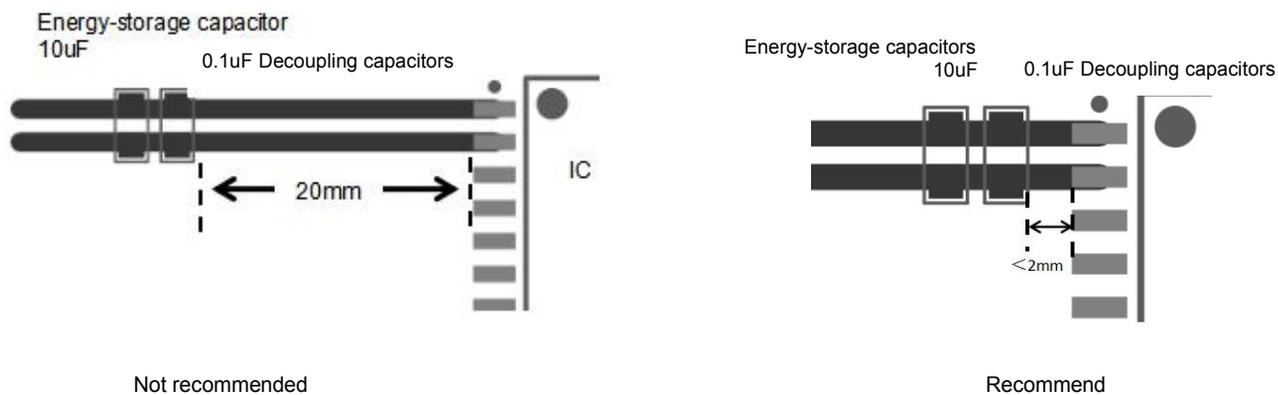

Figure 17-1
1. The decoupling capacitors and energy storage capacitors of VCC and GND1, VISO and GND2 should be placed as close to the chip pins as possible to reduce the loop area and parasitic inductance of PCB wiring. Generally, it should be controlled within 2mm. The decoupling capacitor is placed near the chip, and the energy storage capacitor is placed on the outside. As shown in Figure 17-1.